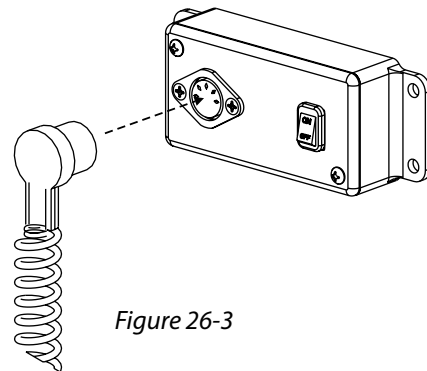

Figure 26-3
8. Plug the hand control into the receptacle in the enclosure. Turn the power switch to the 'ON' position. [Figure 26-3]